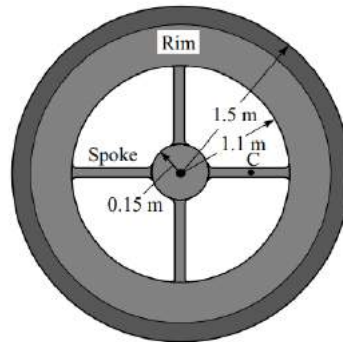

Fig. 10.26
2. A flywheel (Fig. 10.26) consists of a rim of 2500-kg mass and four spokes each of 60-kg mass. The rim has inner and outer radii of 1.1 m and 1.5 m, respectively. The shaft at the center of the wheel has a diameter of 0.25 m and a mass of 1200 kg. Determine (a) the moment of inertia of flywheel about its axis of rotation, and (b) its radius of gyration.